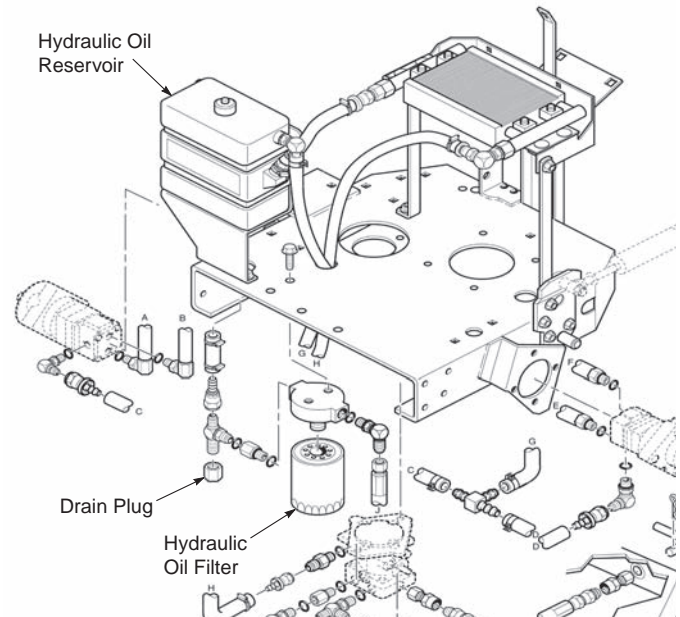

Figure 7-1. Hydraulic Oil Filter and Drain Plug
3. Remove the fill cap from the reservoir and the drain plug from the bottom of the drain tee fitting on the front side of the filter base. See Figure 7-1.
1. Remove the oil filter element and properly discard it. Fill the new filter with clean oil and install the filter. Hand tighten only. See Figure 7-1.